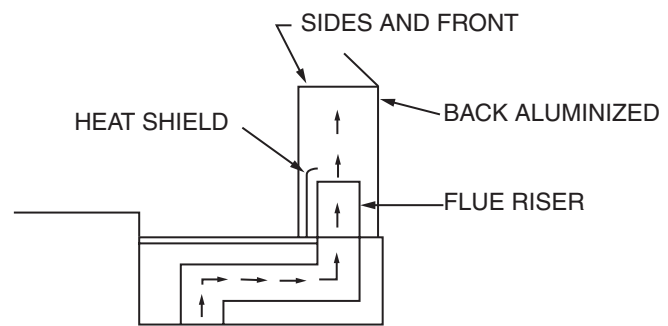

FIGURE 2
**IMPORTANT:** The flue riser must be installed within the back guard. This rectangular riser fits over the collar of the flue collector box inside the fryer. Place the flue riser upright through opening in the back top and slide over collar. (See Figure 2.).